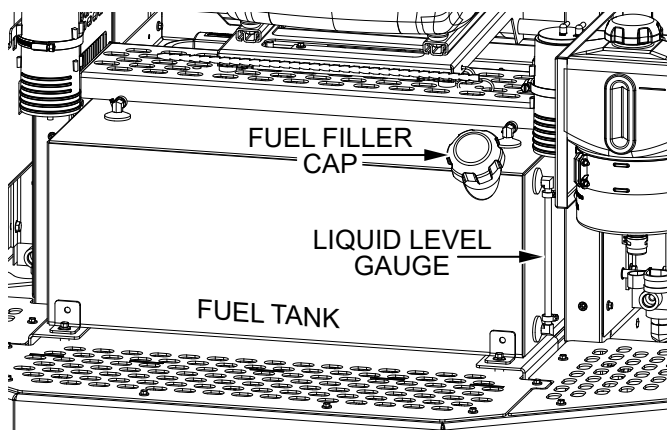

Figure 17. Fuel Level Inspection
2. Visually inspect the level of hydraulic oil in the **hydraulic oil reservoir** (Figure 17). Hydraulic oil should be visible between the **MIN** and **MAX** lines on the reservoir.
2. Visually inspect the **liquid level gauge** on the side of the **fuel tank** (Figure 17).
3. If fuel is low, remove the **fuel filler cap** (Figure 17) and fill the tank with 86 octane or higher unleaded gasoline. **DO NOT** overfill. The fuel tank holds 20 gallons (75.7 liters) of gasoline.